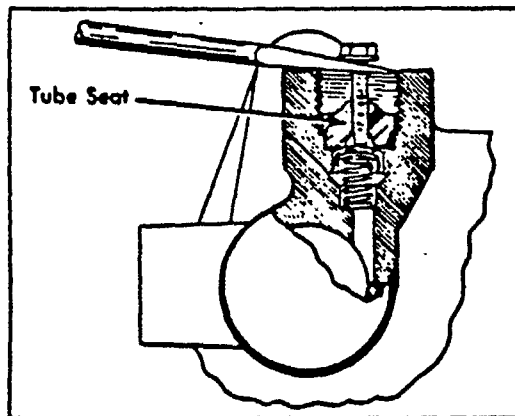

Fig. 36 Removing Tube Seats.
5. Remove the tube seats by using self-tapping screws (supplied in Manufacturers repair kits.) Screw the self-tapping screws into the tube seats and place two screw driver tips under the screw head and force the screw upward as shown in fig. 36